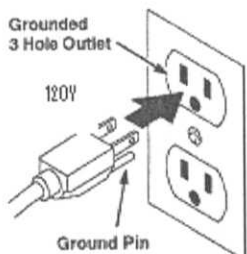

Figure 4
7. Plug machine's power cord into a grounded wall outlet (Figure 4).